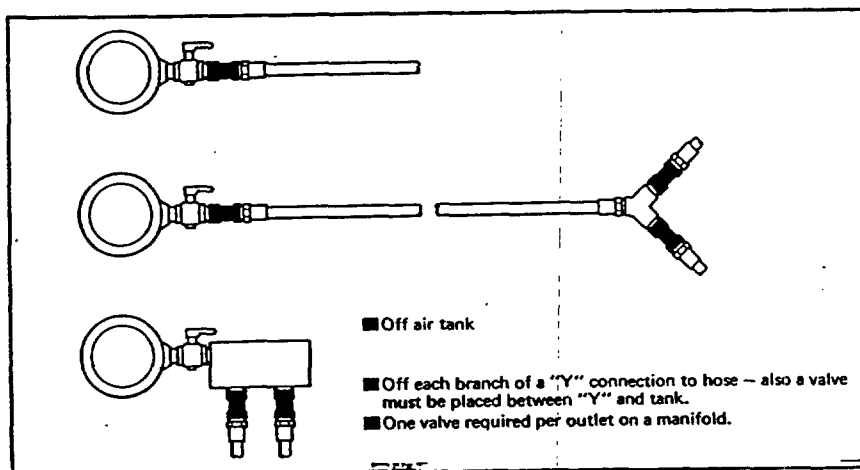

Figure 2. Location of valves in typical air lines.
- o Locate safety valves as shown in Figure 2, below, noting that in the middle figure: